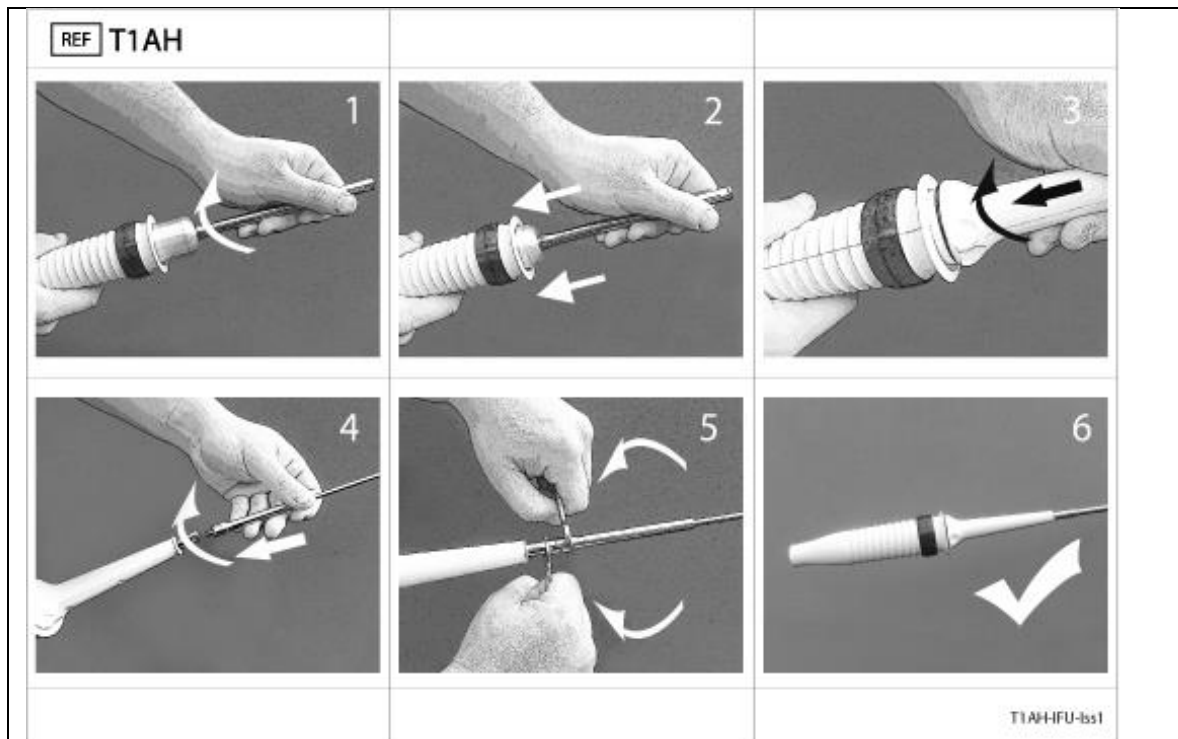

Figure 10 – Assembling Cement Transducer into Axial Grip Handpiece and fitting Probe
- Fit the transducer into the handpiece. Rotate the transducer and drop into place – ensure that it is securely connected. See (1) & (2) in Figure 10 below.
- Slide the handpiece sleeve over the Transducer horn. Locate the lugs at the base of the sleeve into the handpiece grip and twist / click into place. See (3) below.
- Using both supplied spanners, attach the probe to the transducer (4) & (5) below.